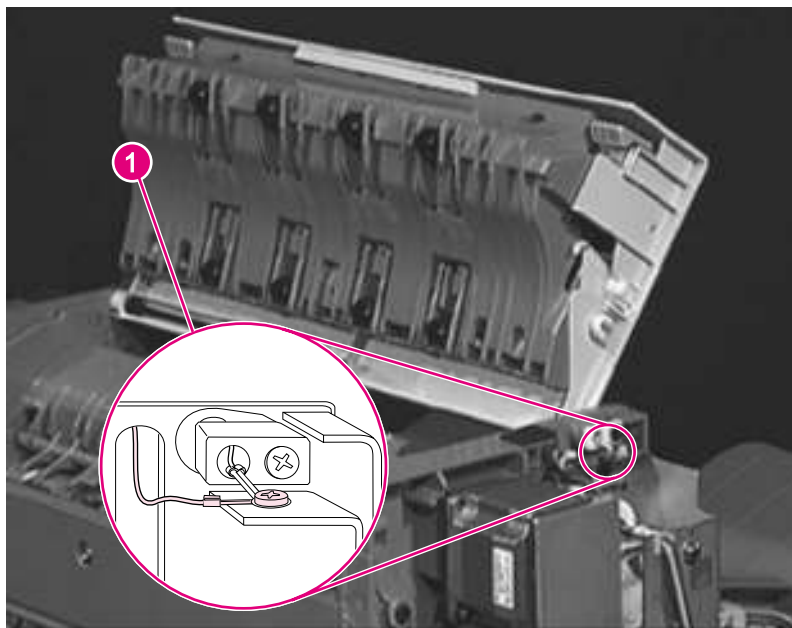

Figure 6-142 Face-up/Diverter Assembly (Flipper) (1 of 3)
- 3 Remove the grounding screw (callout 1) at the top back side (figure 6-142).